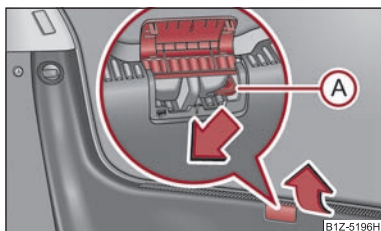

Fig. 29 Emergency unlocking of the boot lid
- Open up the cover of the lock upwards ⇒ fig. 29.
- Move the operating lever (A) with the aid of a narrow object e.g. screwdriver up to the stop in the direction of arrow; the boot lid is then unlocked.